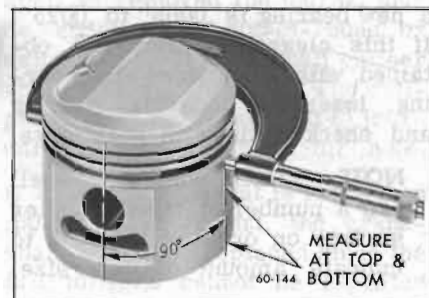

Figure 60-330—Measuring Piston with Micrometer
checked for size it must be measured with a micrometer applied to skirt at points exactly 90 degrees to piston pin. See Figure 60-330. Measurements should be made at top and bottom ends of skirt; the diameter at top end will normally be very slightly less than at bottom end after a piston has been in service in an engine.
Before the honing or reboring operation is started, measure all new pistons with micrometer contacting at points exactly 90 degrees to piston pin (Figure 60-330) then select the smallest piston for the first fitting. The slight variation usually found between pistons in a set may provide for correction in case the first piston is fitted too free.
3. Measure the piston to be installed. See Figure 60-330. The piston must be measured at right angles to the piston pin below the oil ring groove.